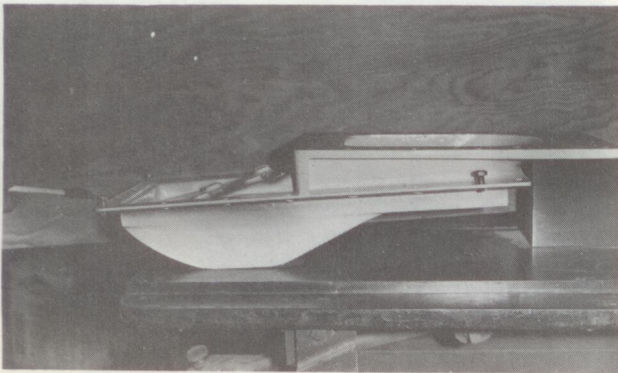

Figure 5
- 7 Loosely insert the intake adapter into the boat with the 4-3/8" leveling bolts threaded into the corners (Figure 5). Raise the casting with the leveling screws so that it matches the outside boat bottom as near as possible with the least amount of filling and fairing. Note: It may be necessary to bevel the bottom inside edge of transom opening if the transom is thick.